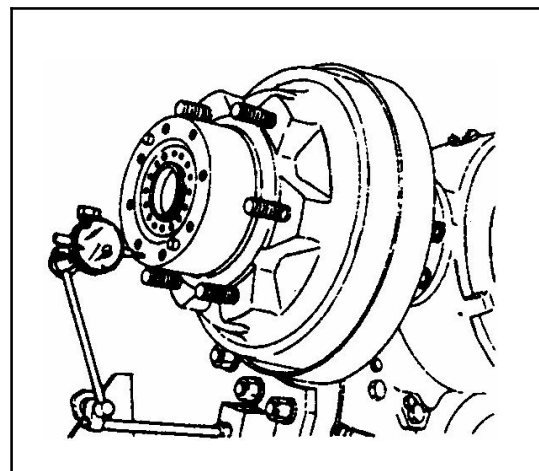

Figure 5-7
- 8) Measure the axial clearance of the wheel hub to see if it meets the standard. The axial clearance is less than 0.08mm (see Figure 5-7).